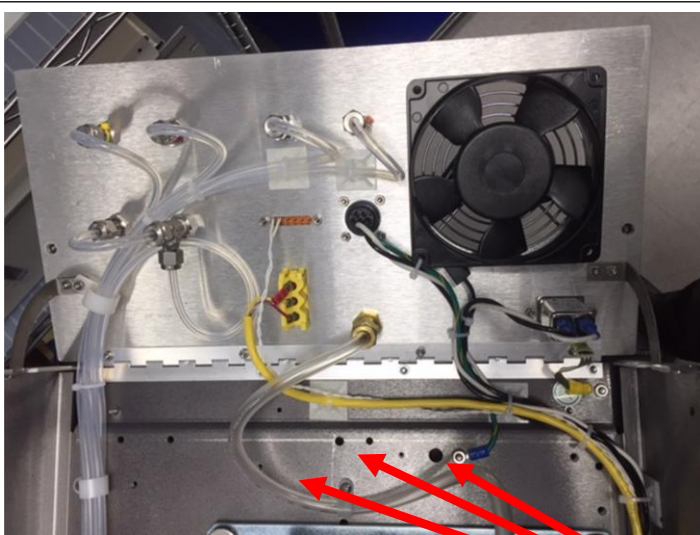

Figure 7
- NOTE: For the other side of the ground wire (the ring terminal side that will be mounted on the chassis floor, see Figures 7 and 8), first find a hole in the bottom of the chassis where the 10 x 32 x 1/2" machine screw with integral star washer will be installed. The hole must be close enough so that the wire can be attached. The screw will need to come UP from underneath the bottom of the chassis.
15. Check if there is paint overspray or other material on chassis floor near the hole (Figures 7 and 9) – scrape away to bare metal with a flat blade screwdriver tip, sand paper, or other suitable tool(s). The star washer must come in contact with bare metal of chassis.